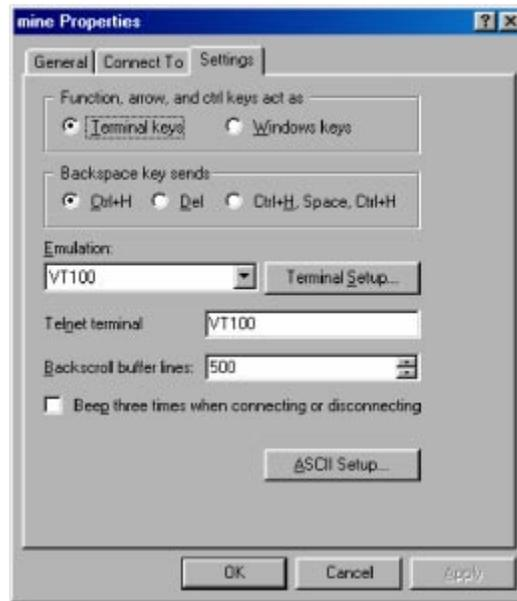

Figure 15. Terminal keys configuration
- Configure the settings for *Function, arrow and ctrl keys act as* to *Terminal keys* as shown in figure 15, then click **OK**.